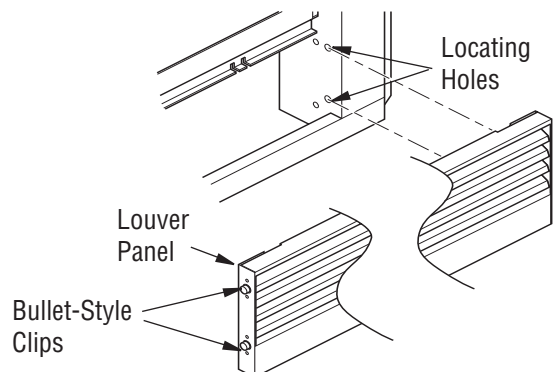
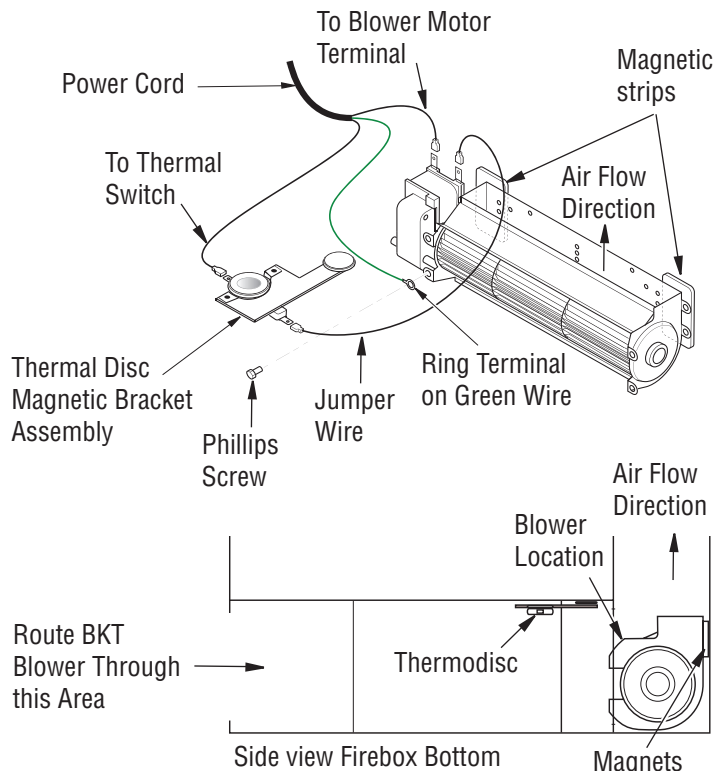

Figure 6: Removing Louver Panel with Bullet-Style Clips (Direct-Vent Models)
Figure 8: Blower Model BKT
Bullet-Style Clip: Remove louver with bullet-style clips by using a flat blade screwdriver and snapping louver forward. Use caution not to scratch any surfaces. These panels can also be removed by inserting fingers between slots on louver and gently pulling out. DO NOT FORCE (see Figure 6). To reinstall, align bullet-style clips with locating holes on inside of firebox and push gently.
1. Attach green ground wire from power cord to blower housing using screw provided (see Figure 8) Tighten screws securely with a Phillips screwdriver.
3. Place the blower against the lower rear wall of the firebox outer wrapper with the exhaust port directed upward. Attach Thermal disc magnetic bracket to the bottom of the firebox sub-floor. The thermodisc must be oriented near the fireplace bottom as shown in Figure 6, in order to sense temperature and properly operate. The blower will be held in position against the back wall by the magnets incorporated onto the blower housing (see Figure 8).